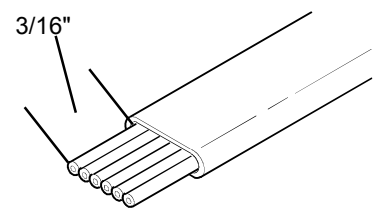

Figure 2: The Stripped CA Cable
5. The stripped insulation should expose approximately 3/16” of wire (Figure 2).